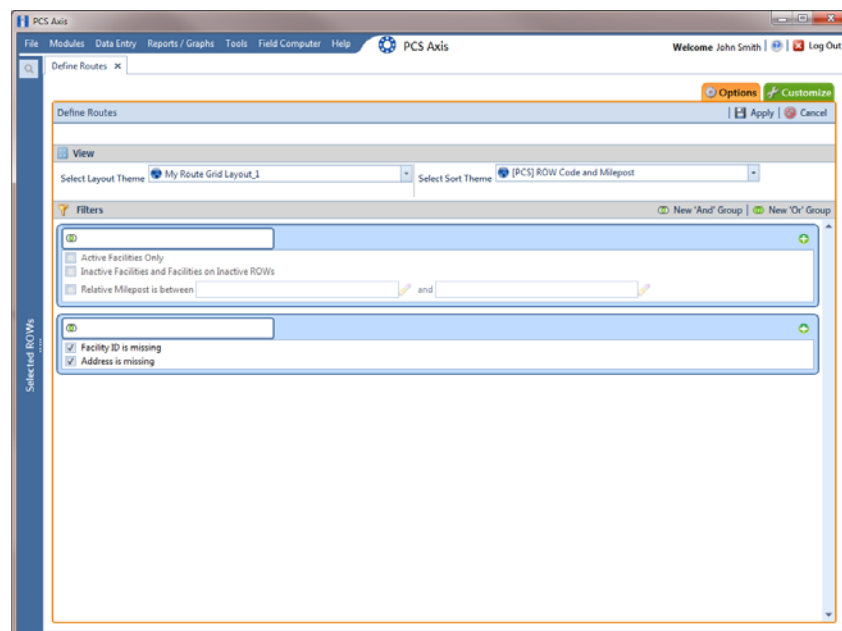

Figure 8-50. Options
- 12** To apply one or more filters to the selected route and the *Define Routes* grid (Figure 8-50, page 407):